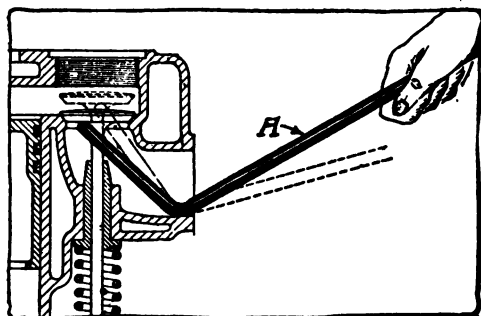

Fig. 12. Bent Tool Which Facilitates Removal of Stuck Valves
**Removing Valve.** Getting the valve out frequently gives much trouble, the valve often being found frozen to its seat or with the stem gummed in its guide. A tool to meet this difficulty is a plain bar or round iron about  $\frac{1}{4}$  inch in diameter, Fig. 12, with one end, for a distance of perhaps 2 or  $2\frac{1}{2}$  inches, bent up at an angle of about 120 degrees. To use the tool, insert the short bent end in the exhaust or the inlet opening, according to which valve is stuck, until the end touches the under side of the valve head, then lower the outer end until the bottom of the bent part or point at which the bend occurs rests against solid metal. The outer end can now be pressed down, and with the inner end acting as a lever the valve can be pressed off its seat and out very quickly.
To make this clearer, the rod, Fig. 12, is indicated at *A*, while the dotted line shows how it is pressed down and the valve forced out. The garage man can elaborate upon the tool when making it for himself by using square stock and having the inner end forked so as to bear on each side of the valve. The form pointed out above is the simplest, cheapest, and easiest to make.